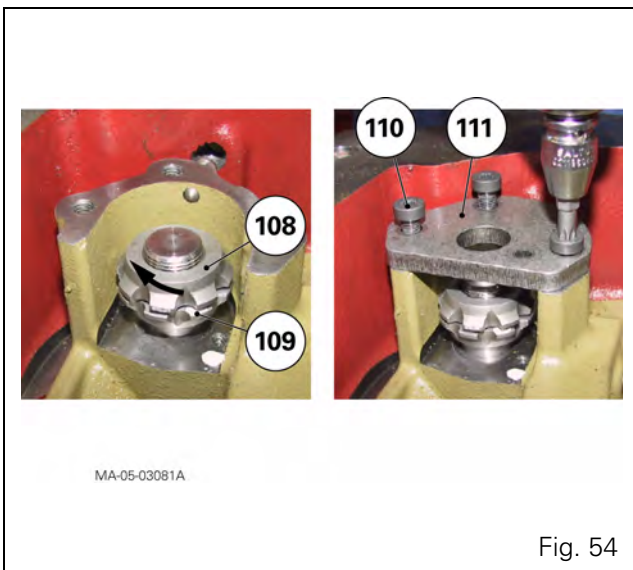

Fig. 54
136. Fit the castellated nut (108). Screw it on until it is almost touching the nut (109) (Fig. 54).
137. Fit the plate (111). Fit the screws (110) smeared with Loctite 242 or equivalent (Fig. 54). Tighten to a torque of 29 - 37 Nm.